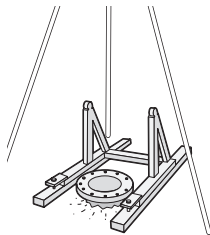

Fig 1.11
- 1.3.2.2 Check that the **WELLMASTER** clamps and the well-head roller can be readily supported (Fig. 1.11)